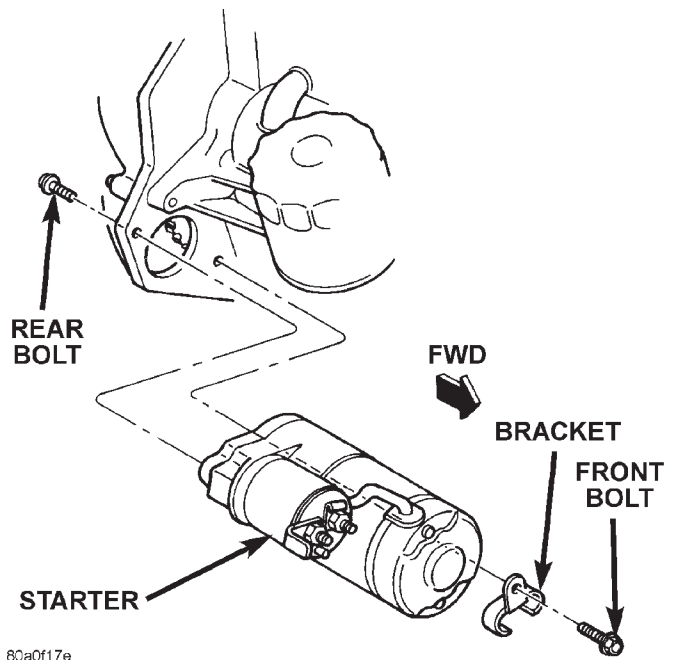

Fig. 10 Starter Remove/Install - 4.0L Engine
- (4) Remove the front starter mounting bolt and oil cooler line bracket (Fig. 10).